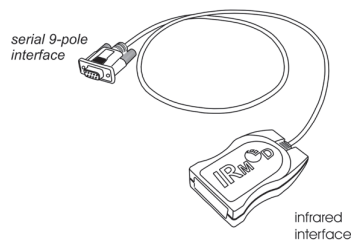

Figure 4.7.1: Infrared interface with 9-pole serial connection
Switch on the Mobil-O-Graph NG®. Open the interface menu by pressing and holding the Start key, and then pressing the Day/Night key. You can now choose between the flashing messages "co", "bt" and "PAIr" with the Start key. Select "co" and confirm this with the Event key. The letters "co" now longer flash and the interface is active. Now point the "IR-Med" IR interface, which is connected to your PC, towards the IR interface of the Mobil-O-Graph NG® at a distance of 10–15 cm. Two IR interfaces are available from I.E.M. (see also Figure 4.7.1):
- * Separate infrared interface (see Fig. 4.7.1)